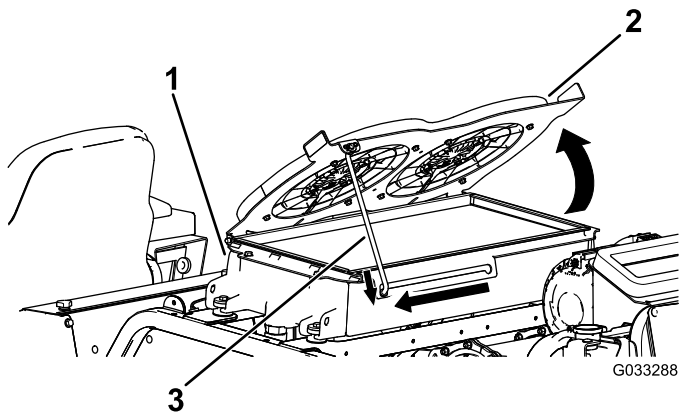

Figure 88
2. Pivot the hydraulic-cooling fans upward and lock the prop rod into the notch (Figure 88).